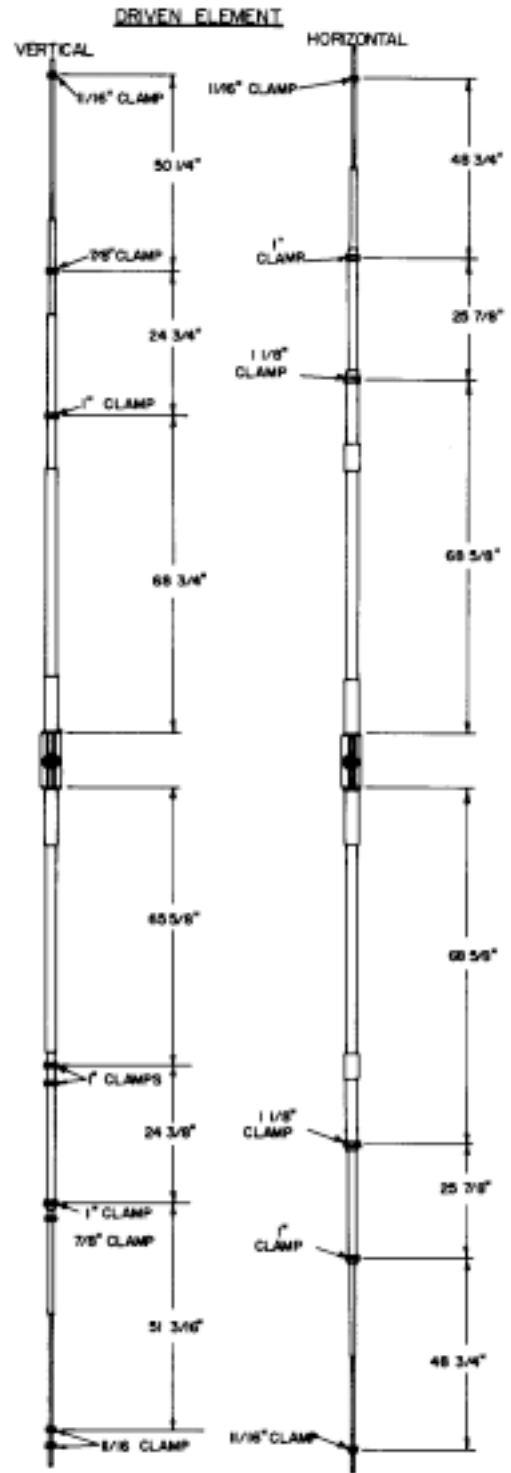

Figure 9. Driven Element Compression Clamp Assembly
() Install the six 1 " compression clamps, item 29. Slip three of them over the bottom vertical driven element spreader arm as shown in Figure 9. Slip one over the top end of the vertical spreader arm as shown and slip one over each end of the driven element horizontal spreader arm as shown in Figure 9.
() Select two 5/8" compression clamps, item 30, and slip one on the end of each vertical driven element spreader arm and loosely attach them on the 5/8" tubing at the dimensions called for in Figure 9.
() Next, select five of the 1/16" compression clamps and place them on each spreader arm at the locations shown in Figure 9.